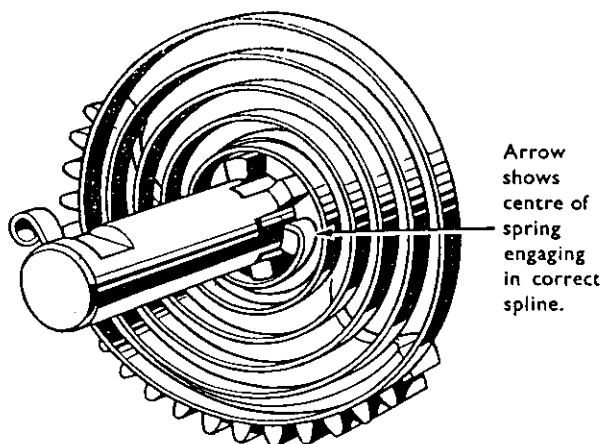

Fig. 6. Kickstarter Return Spring and Spindle.
- (2) Fit the splined end of the plunger quadrant through the footchange spindle bush; fit the footchange lever in the required position and tighten up the set screw.
- (3) Assemble the two footchange pedal return springs, allowing them to lie in their natural curve. It will be found easier to fit the second spring if the footchange pedal is used to compress the first. When the two springs are in position, place the guide plate over the four studs with the open end facing forward and the chamfers facing inwards. Fit the nuts and shakeproof washers to the studs and tighten down the guide plate. It will be found advantageous to fit the plungers and springs after the assembly of the kickstart mechanism.
- (4) Fit the return spring to the kickstart quadrant (see Fig. 6). Enter the spindle, cotter end first, into the kickstart bush from the inside of the cover. Fix the "eye" the return spring anchor peg at the rear of the cover. Wind the quadrant round in a clockwise direction (viewed from inside the gearbox) to tension the spring. This can be done easily by placing the kickstart quadrant inner spindle in a vice and turning the cover in a clockwise direction. Do this carefully with the cover located correctly to avoid the return spring coming off the peg. The cover should be wound one turn clockwise from the original position. Assemble the kickstart pedal and fit the cotter pin and nut. Turn the clutch lever outwards and allow the kickstart pedal to rest against it, thus preventing the return spring from unwinding.
- (5) Enter the springs into the plungers and depress the footchange pedal. The first plunger can be inserted into its housing with the knife edge inwards and the chamfer conforming with that of the guide plate. Ease the plunger into position, at the same time raising the footchange pedal until the upper plunger housing is exposed. Fit the other plunger in the same way. Gently return the pedal to its neutral position, where both the plungers will be retained by the guide plate. Any subsequent movement of the footchange lever will allow the plungers to spring out, therefore care must be taken when the outer cover is assembled to the inner cover.
- (6) Smear jointing compound on to the face of the inner cover. Grasp the footchange pedal in one hand and the kickstart lever in the other. Wind the kickstart pedal anti-
- (2) Replace the primary chain round the drive and clutch sprockets and fit the spring link remembering that the closed end faces in the direction of travel.
- (3) Place a box spanner over the clutch nut and tighten fully, preventing the assembly from rotating by using the clutch locking tool. (Fig. 6, Page 14). If this tool is not available, strike the tommy bar a few sharp blows with a hammer and the clutch nut will be driven home. The lock washer should be set to lock the nut.
- (4) Assemble the clutch plates in the following order:—first a plain plate, followed by a corked plate and so on, leaving a plain plate to be fitted last. (Five plain plates, four corked plates).
- (5) Fit the push rod through the centre of the gearbox mainshaft and fit the pressure plate, the push rod engaging in the centre button.
- (6) Place the four springs in the cups and insert over the clutch pins, and through the four holes in the pressure plate. Screw on the nuts until the pins are flush with the outer face of the nuts. Depress the clutch lever at the handlebar to test the action.